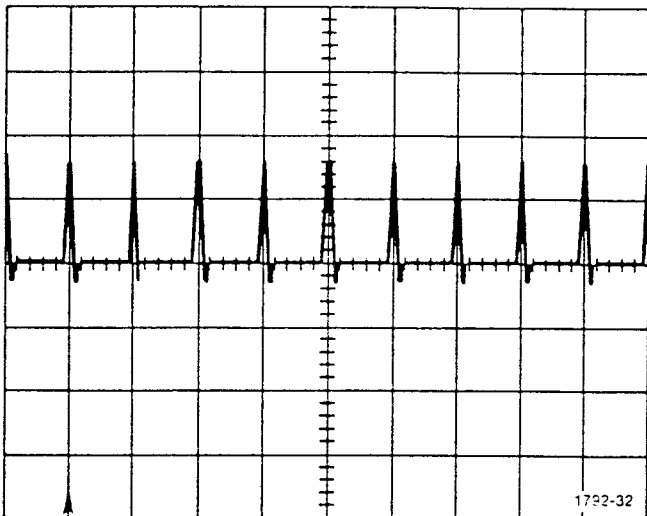
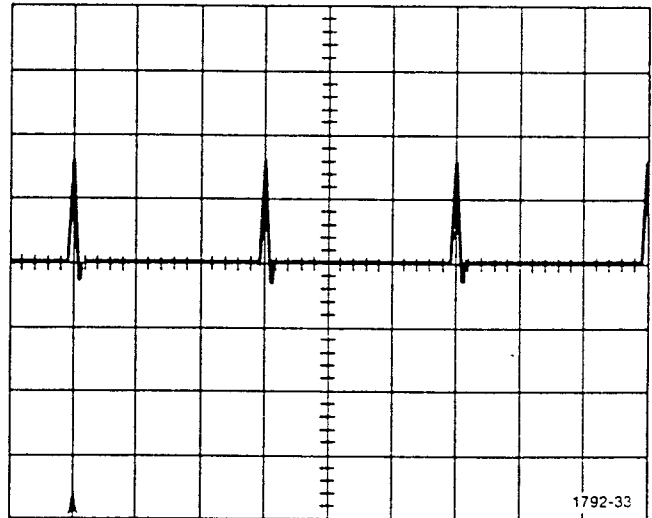

Fig. 4-14a. Standard Time Marks
Fig. 4-14b. Metric Time Marks
6. Adjust 1502 front-panel controls until a waveform similar to that in Figure 4-14a (Figure 4-14b metric) appears on CRT. Adjust OUTPUT VOLTS (Low Level) on pulse generator and DISTANCE dial on 1502 so that time marks are aligned with vertical graticule lines. *NOTE: time marks must not exceed 0.85 V amplitude to keep tunnel diode in low state.*